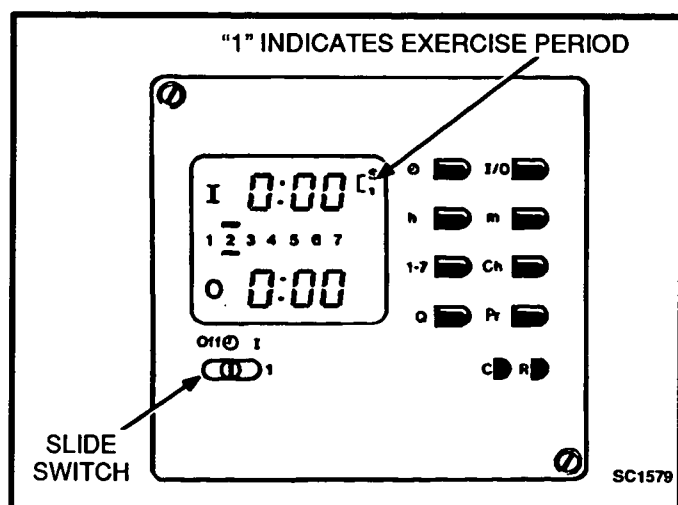

FIGURE 7-1. EXERCISER CLOCK
2. Check the exerciser clock to see if it is in an exercise period. When the exerciser clock is in an exercise period, a "1" appears in the upper right-hand corner of the display window (Figure 7-1). You can view the display by looking through the transparent clock cover. Check that the red slide switch is in the center position.
2. Check the exerciser to see if it is in an exercise period. When the exerciser clock is in an exercise period, a "1" appears in the upper right-hand corner of the display window (Figure 7-1). You can view the display by looking through the transparent clock cover. Check that the red slide switch is in the center position.